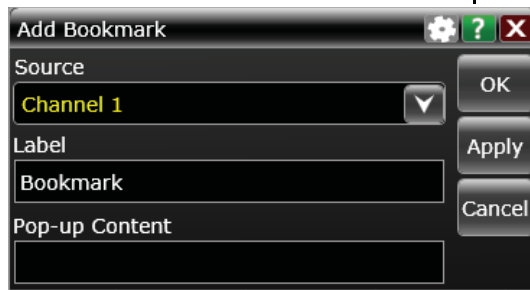

Figure 22 Help button for dialog box help
- Click the question mark near the top right corner of a dialog box to open to the help topic for that dialog box (Figure 22).